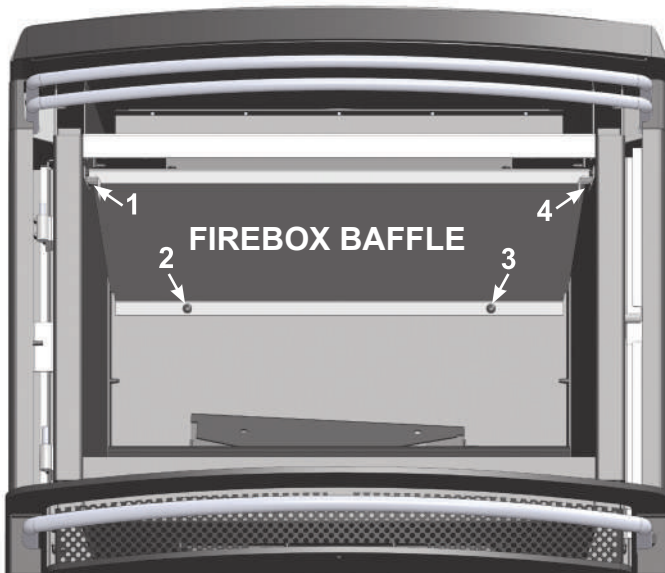

Fig. 4
3. Remove the "FIREBOX BAFFLE" (4 screws). (Fig. 4)
6. Re-install the "FIREBOX BAFFLE". (Fig 4)